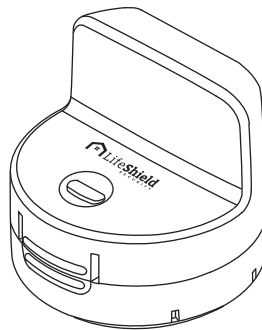

Figure 22A. Siren Detector
**Smoke Sensors** LifeShield **Siren Detectors** and Honeywell 5808W3 **Smoke/Heat Detectors** are always monitored once registered into your LifeShield system. **Siren Detector** monitors existing smoke and carbon monoxide detectors in your home. (Figures 22A and 22B)